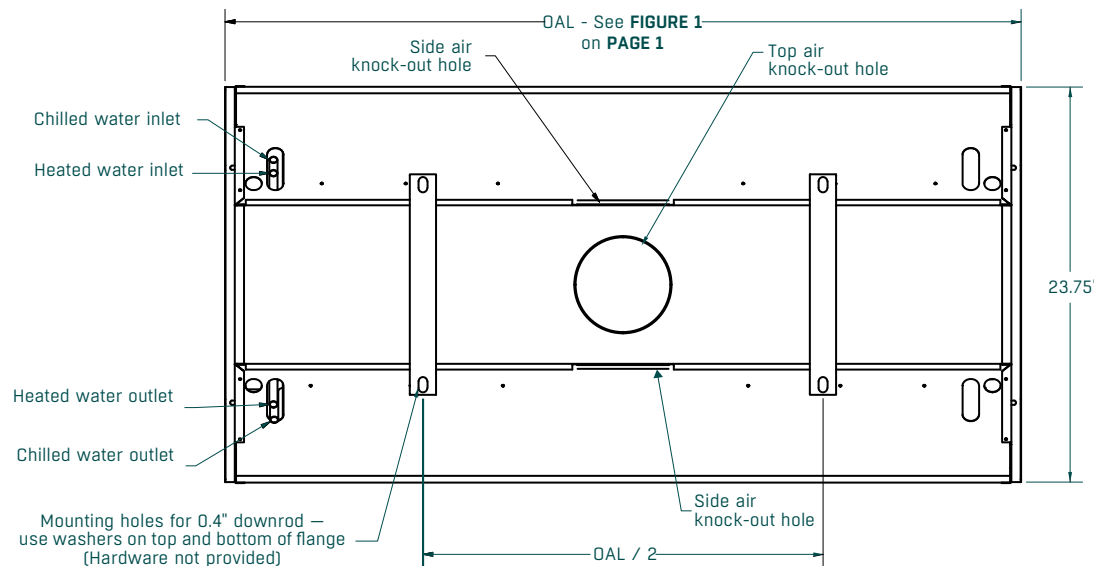

FIGURE 8. Water and duct connections (top view)
- 4) Aim the end of the tip to point up, or if installed in the top air location, have the ramp point to the close side of the air plenum. (Orientation is important for sound and performance. See **FIGURE 8**).